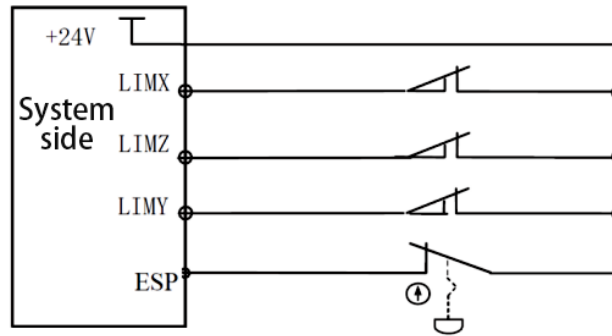

Fig. 2-34B Emergency stop and stroke switch are connected independently
- ② The stroke limit is connected independently to the emergency stop, as shown in Figure 2-34B below: